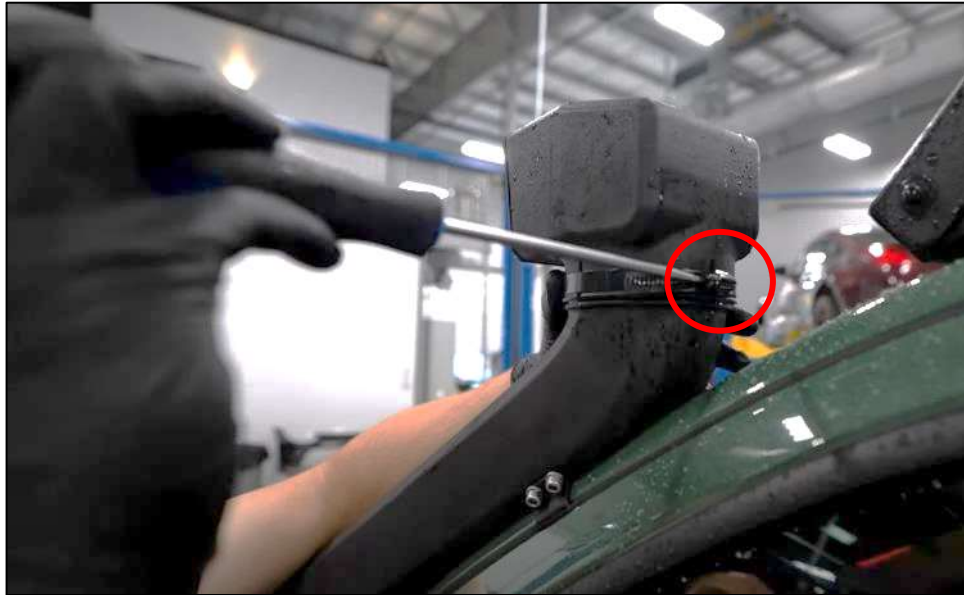

Figure 15
25. Install the Snorkel Inlet Head on top of the Snorkel Upright. Align the Inlet Head to the small tab on the Snorkel Upright and tighten the Black Band Clamp with a screwdriver. *Figure 15.*